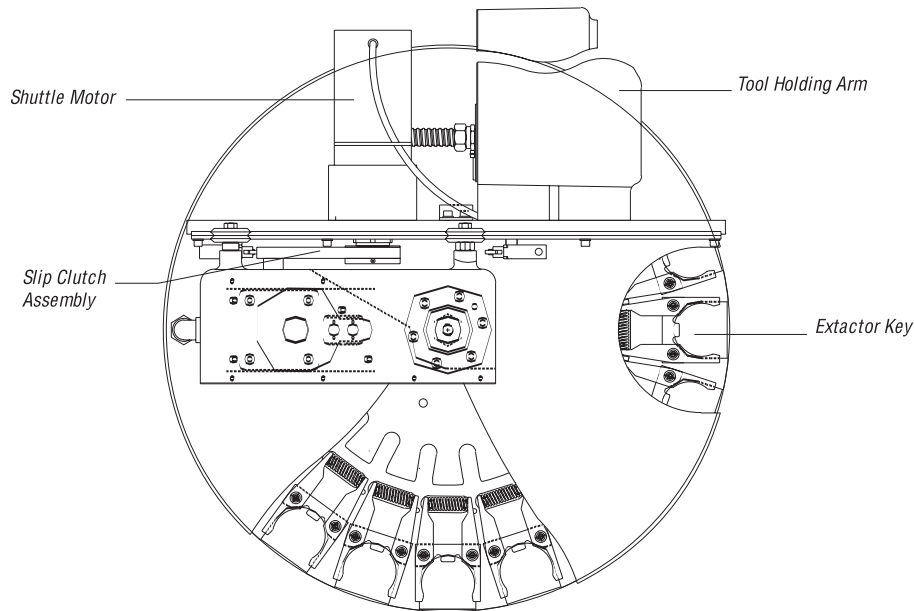

Figure 12-3. Automatic Tool Changer - Mechanical Assembly (Top View)
5. Loosen the set screw that secures the slip clutch assembly to the shuttle motor (see Fig. 12-3).
6. Using a small two-jaw puller, pull the slip clutch assembly (see Fig. 12-3) off the shuttle motor shaft.